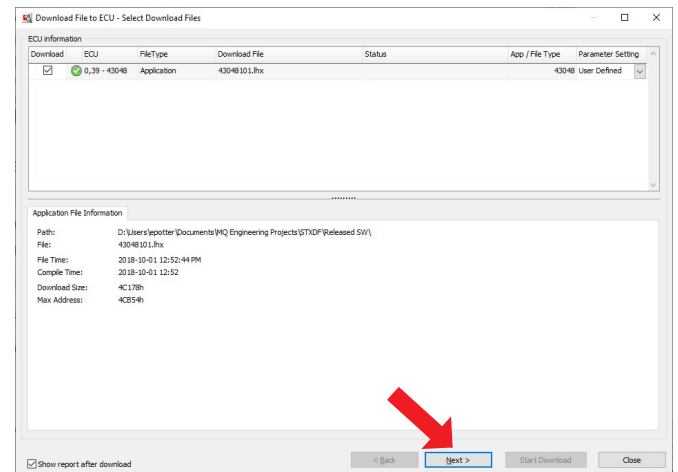

Figure 27. Start Download Screen
7. Click "Next" then "Start Download" button (Figure 27).